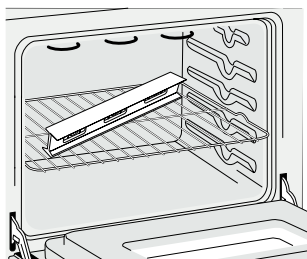

Figure 11
1. Install an oven rack in the center of the oven (see Figure 11).